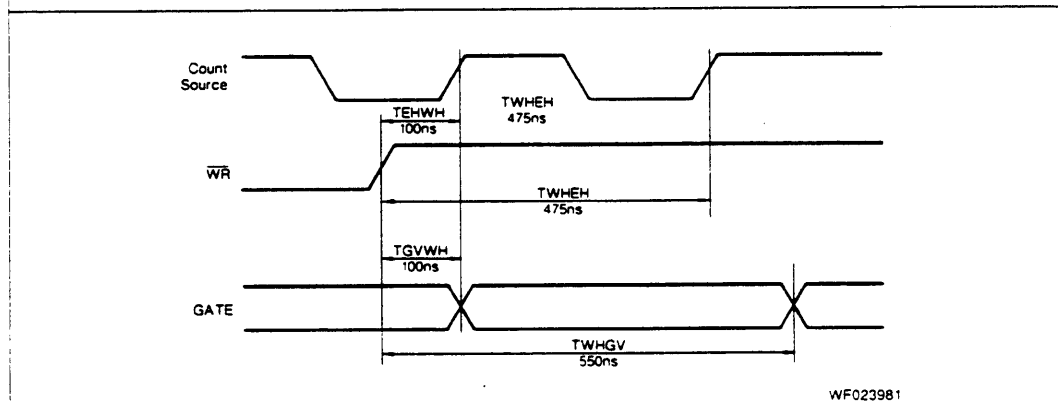

Figure A3. TEHWH/TGVWH Timing Diagram
- 10) Timing parameters TEHWH and TGVWH are specified as negative. The diagrams in Figure A3 show the relationship between these signals.